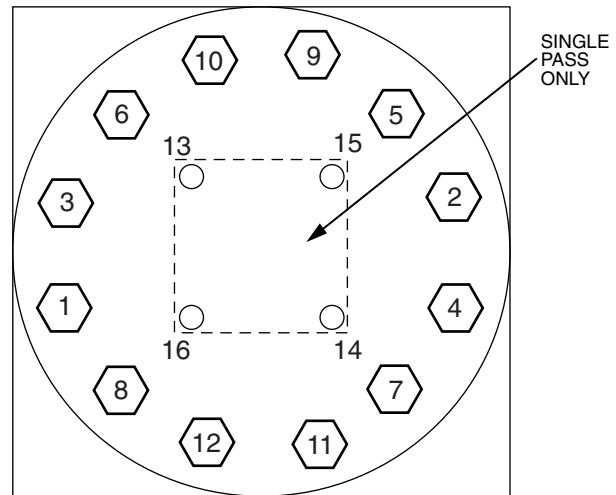

Fig. 68 — Flooded Cooler Unit Head Recommended Bolt Torque Sequence
2. Bolt tightening sequence is outlined in Fig. 68. Follow the numbering or lettering sequence so that pressure is evenly applied to O-ring.